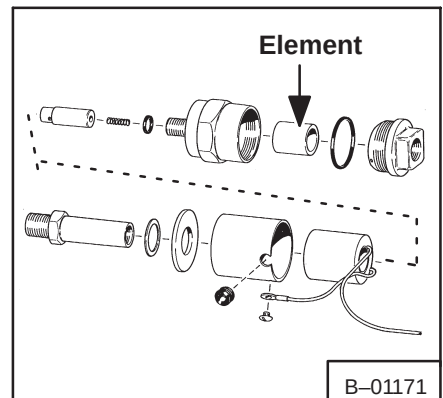

Fig. 1-18 LP Gas Fuel Filter
L.P. Gas: (Wisconsin) A filter with an ignition switch actuated shut-off lock is located between the inlet hose and vaporizer. This must be serviced regularly. Remove the old element and install new element when servicing (Fig. 1-18).